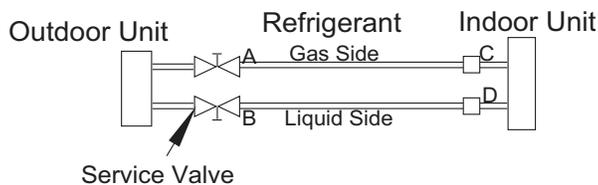

Fig. 7 – Service Valve
1. Completely tighten flare nuts on the line set at both the indoor and outdoor units. **DO NOT** open the service valves on the outdoor unit for the new installation or the replacement unit. Open the service valves on the outdoor unit if repairs have been made to the refrigerant sealed system. Connect the manifold gauge low pressure hose to the charge port of the gas side service valve (see Fig. 7).